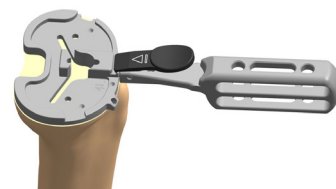

Figure 39
1. Select the baseplate trial based upon best fit and coverage on the resected tibia. Set position of the tibial baseplate based upon the anatomic landmarks of the tibia (best fit coverage and medial third of the tubercle). Pin the baseplate using two short bone spikes (Figure 39).